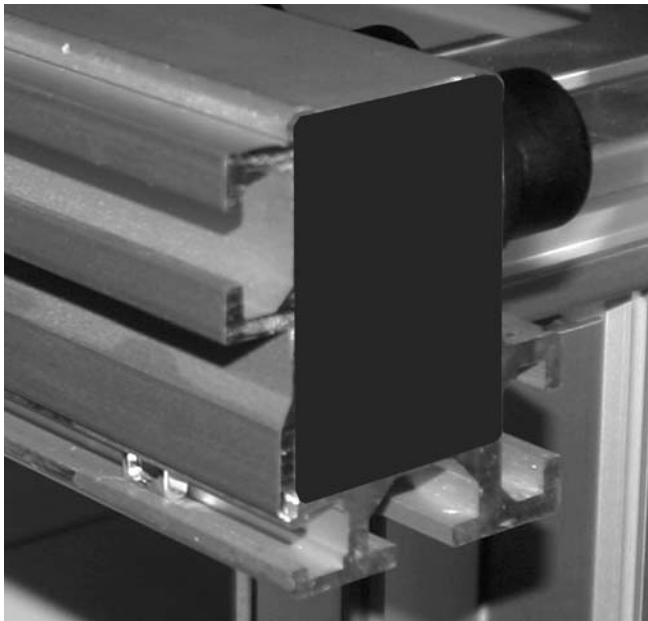

Figure 14
5. Tighten screws securing cover, making sure the cover is fully seated onto channel of conveyor frame. (See (Figure 14) for example of correct installation.)